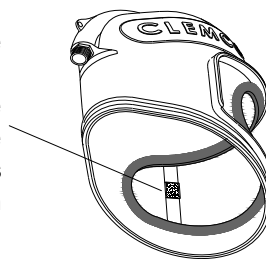

Figure 4
2.1.2.1 Place the transparent mounting strip on the inside of the inner lens, and into the same window gasket groove as the inner lens, as shown in Figure 4. Position it so it is within peripheral vision toward the side of the window opening.